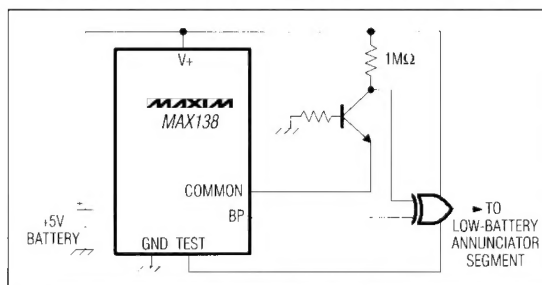

Figure 6. Low-Battery Detector and LCD Segment Drive
Since the voltage between COMMON and V_+ is between +2.95V and +3.15V until the voltage between V_+ and V_- falls to less than +4V, a simple low-battery detector can be made using a transistor voltage detector as shown in Figure 6. When Q1 is off, the low-battery segment is driven in phase with the backplane off. When Q1 turns on, the low-battery LCD segment becomes visible. Q1 turns on when the voltage at the base of Q1 is one base-emitter voltage more positive than COMMON voltage.
4. If the input-signal polarity is reversed from the desired polarity, use the minus segment to drive the vertical bar of a plus sign and (using one of the decimal-point driver circuits of Figure 6) to permanently turn on the horizontal bar of the plus sign. When the MAX138/139/140 measures a negative polarity, a "+" will be displayed. When the MAX138/139 measures a positive polarity, a "-" will be displayed. (Normal operation of the MAX138/139/140 is no polarity indication for a positive input and a "-" sign for a negative input.)